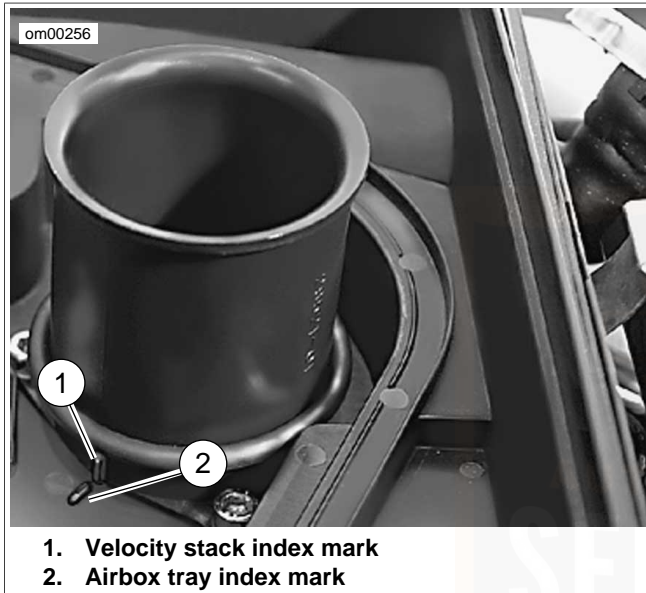

Figure 60. Velocity Stack and Airbox Tray Index Marks
13. See Figure 60. Align the index marks and install the velocity stacks, the longest stack toward the front of the motorcycle. Start all fasteners by hand first, making sure none are cross-threaded. Tighten the three fasteners on each velocity stack to 1.01 Nm (8.9 **in-lbs**).